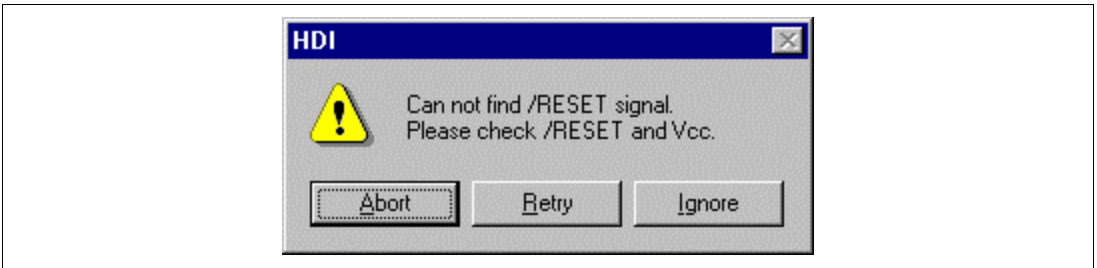

Figure 2.12 [Can not find /RESET signal] Dialog Box
3. If the emulator is not initiated, the following dialog boxes shown in figures 2.12 through 2.15 will be displayed.